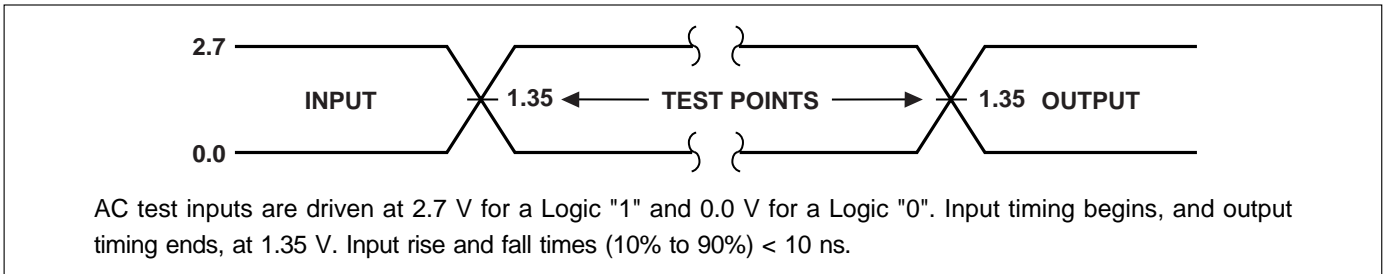
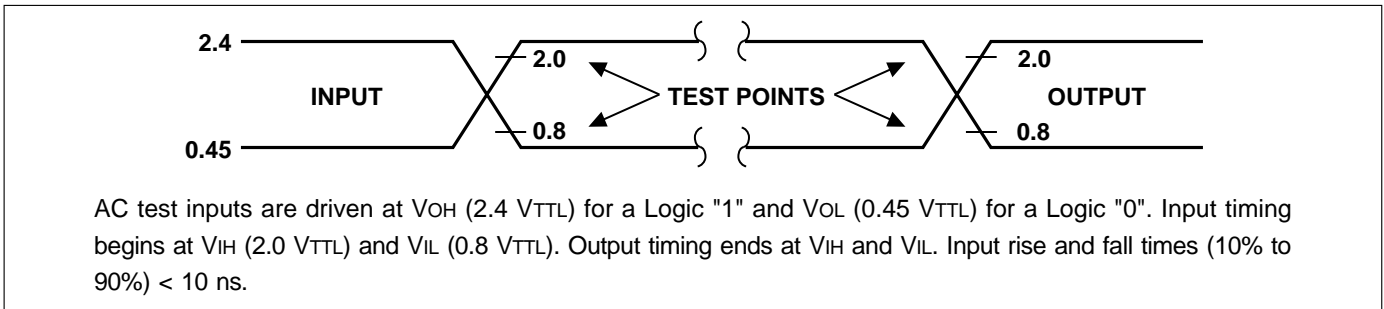

Fig. 9 Transient Input/Output Reference Waveform for V_{cc} = 2.7 to 3.0 V
Fig. 11 Transient Input/Output Reference Waveform for V_{cc} = 5.0±0.5 V (Standard Testing Configuration)
1. See AC Input/Output Reference Waveform (Fig. 9 through Fig. 11) for maximum allowable input slew rate.